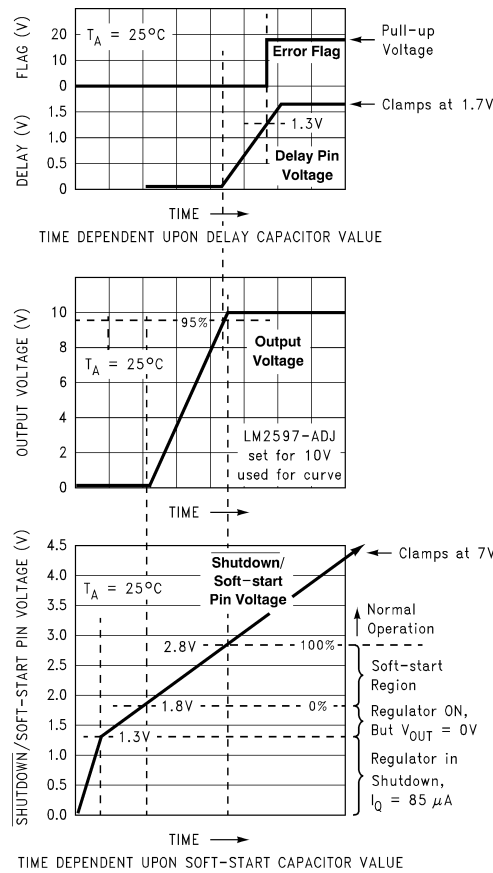
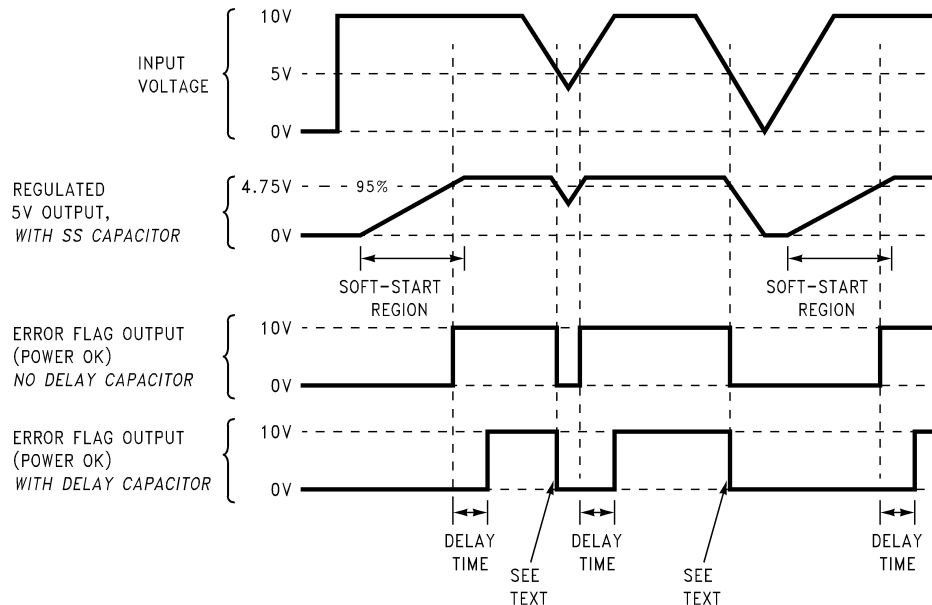

Figure 31. Soft-Start, Delay, Error, and Output
Figure 33. Timing Diagram for 5-V Output
A capacitor on this pin provides the regulator with a soft-start feature (slow start-up). When the DC input voltage is first applied to the regulator, or when the Shutdown/Soft-start pin is allowed to go high, a constant current (approximately 5 μ A begins charging this capacitor). As the capacitor voltage rises, the regulator goes through four operating regions (see the bottom curve in Figure 31).
3. Soft-start Region – When the $\overline{\text{SD/SS}}$ pin voltage is between 1.8 V and 2.8 V (at 25°C), the regulator is in a soft-start condition. The switch (Pin 8) duty cycle initially starts out very low, with narrow pulses and gradually get wider as the capacitor $\overline{\text{SD/SS}}$ pin ramps up towards 2.8 V. As the duty cycle increases, the output voltage also increases at a controlled ramp up. See the center curve in Figure 31. The input supply current requirement also starts out at a low level for the narrow pulses and ramp up in a controlled manner. This is a very useful feature in some switcher topologies that require large start-up currents (such as the inverting configuration) which can load down the input power supply.
The lower curve shown in Figure 31 shows the soft-start region from 0% to 100%. This is not the duty cycle percentage, but the output voltage percentage. Also, the soft-start voltage range has a negative temperature coefficient associated with it. See the soft-start curve in Electrical Characteristics.
Provides delay for the error flag output. See the upper curve in Figure 31, and also refer to timing diagrams in Figure 33. A capacitor on this pin provides a time delay between the time the regulated output voltage (when it is increasing in value) reaches 95% of the nominal output voltage, and the time the error flag output goes high. A 3- μ A constant current from the delay pin charges the delay capacitor resulting in a voltage ramp. When this voltage reaches a threshold of approximately 1.3 V, the open collector error flag output (or power OK) goes high. This signal can be used to indicate that the regulated output has reached the correct voltage and has stabilized.